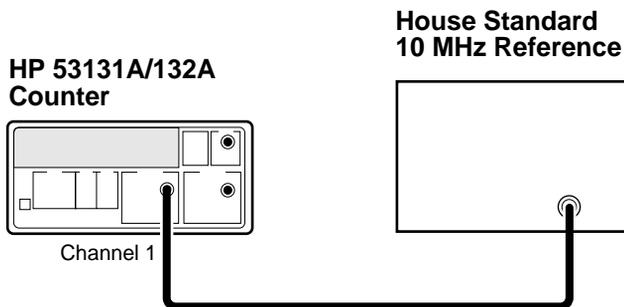

Figure 2-5. Standard Timebase Calibration Setup
- 1 **Connect the output of a 10 MHz house standard to Channel 1 of the Counter as shown in Figure 2-5.**
- 1 Connect the output of a 10 MHz house standard to Channel 1 of the Counter as shown in Figure 2-5.**